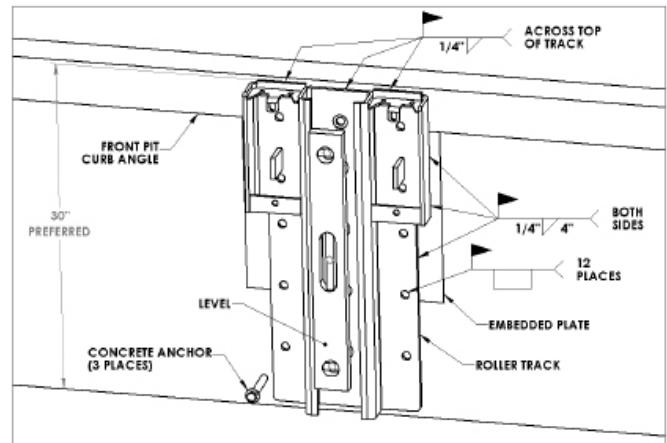

FIGURE 4—WELDING ROLLER TRACK FRONT VIEW
Plug weld all holes that are in contact with the embedded mounting plate. All fifteen (15) holes must be either plug welded or anchored. See Figure 4.